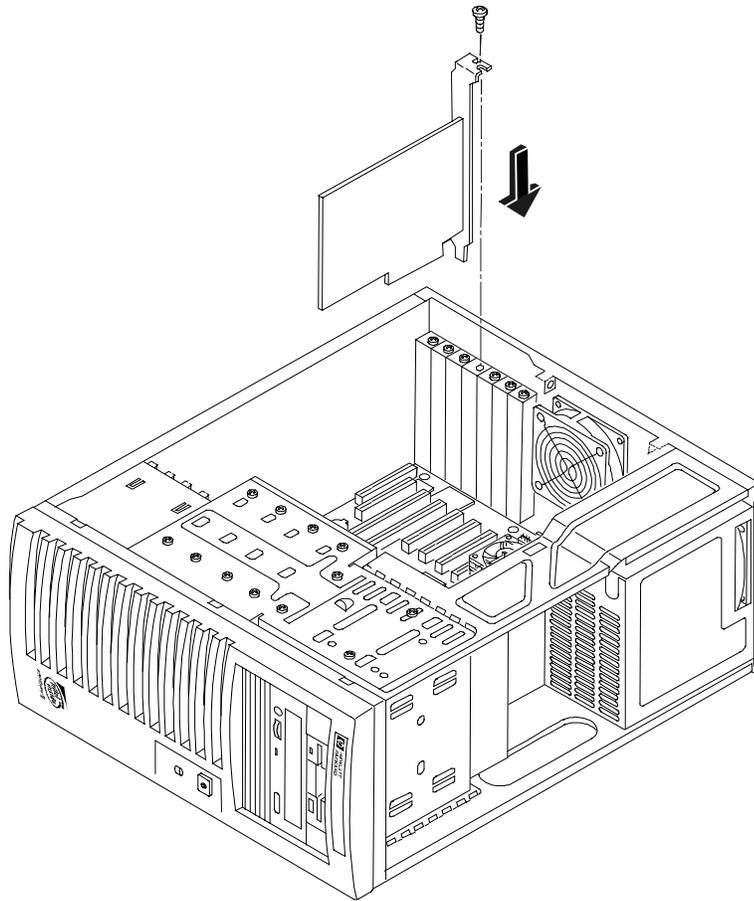

Figure 5-3. Inserting an Accessory Board
- Slide the accessory board into the slot. See Figure 5-3.